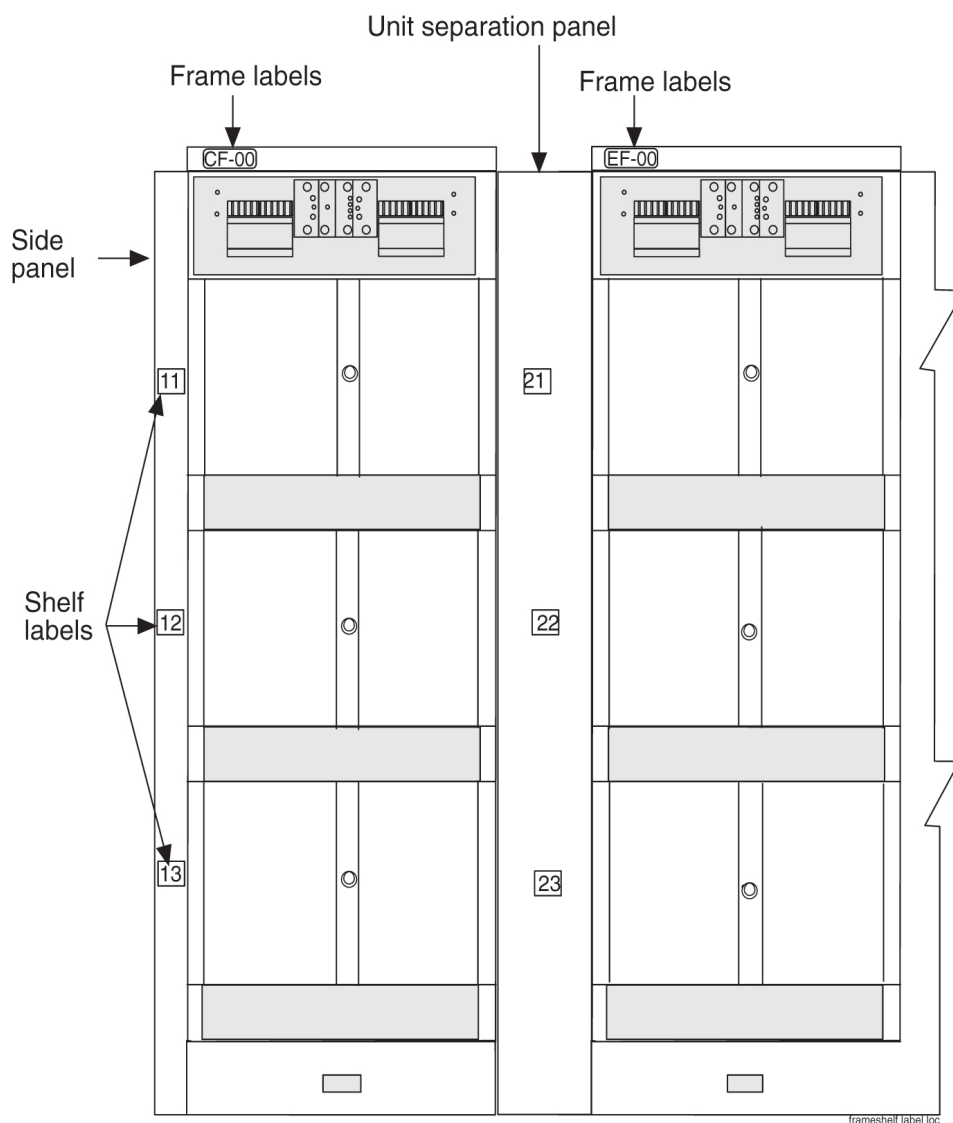
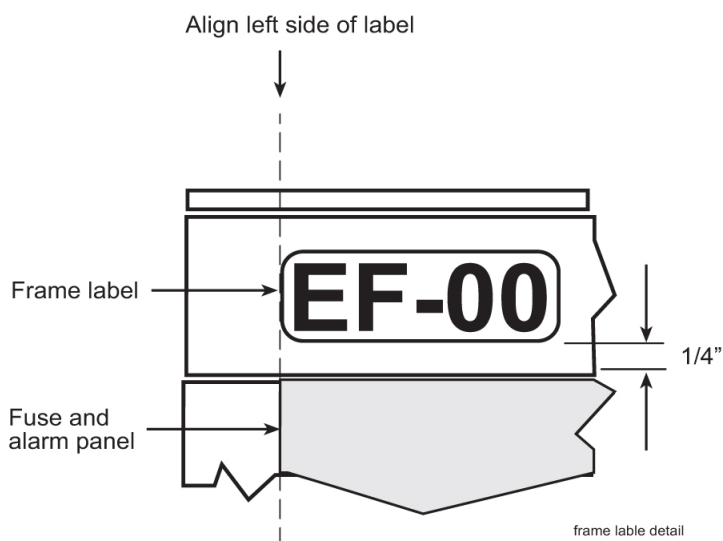

Figure 32: Frame and Shelf Label Locations
Figure 33: Frame Label Location - Detail
All of the frames shown in Table 7: Frame Labels and Part Numbers are labeled the same way on end panels and separation panels, see Figure 32: Frame and Shelf Label Locations and Figure 33: Frame Label Location - Detail.
Apply frame labels to the front of each frame as shown in Figure 32: Frame and Shelf Label Locations.
2. Firmly press the label into place as shown in Figure 32: Frame and Shelf Label Locations and Figure 33: Frame Label Location - Detail..